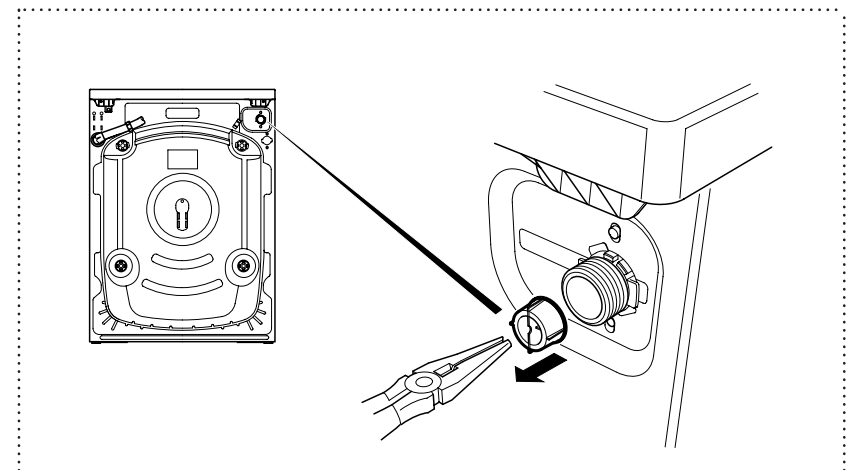

Figure 17
- 2 To remove the water inlet filter from the water inlet valve, use a pair of long-nosed pliers to gently pull on the plastic bar in the filter (fig 17).